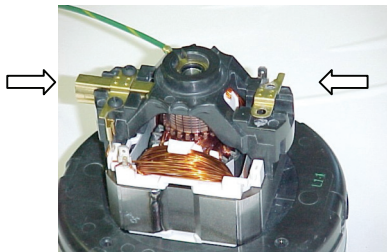

Figure 2
- 2) Lift gold colored tab and lift/pull out each brush (**Figure 2 shows right brush removed**)